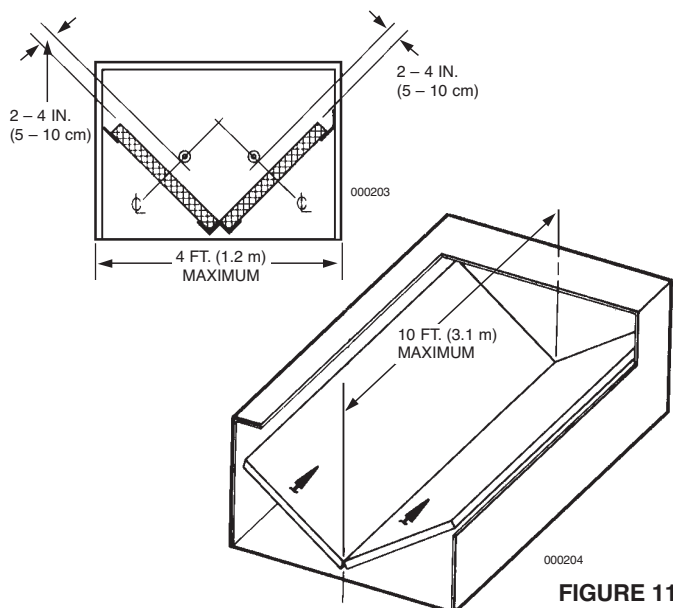

FIGURE 11
- The nozzle must be positioned 0-6 in. (0-15 cm) from the end of the hood to the tip of the nozzle. See Figure 11.